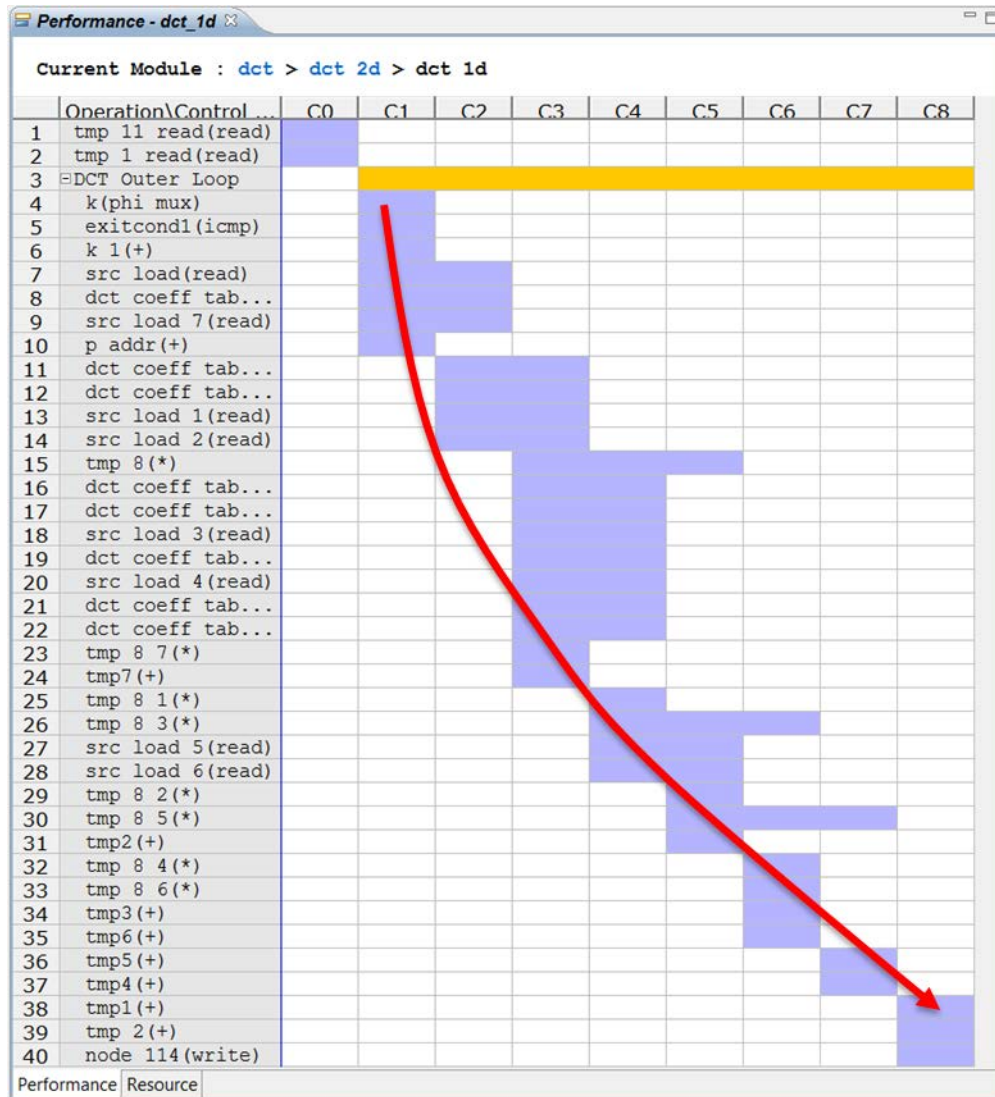

Figure 128: Analysis of `dct_1d` RD_Loop_Row
13. Expand the `DCT_Outer_Loop` to see the view shown in **Figure 128**.
Figure 128 shows a very different view from the earlier loop schedules (which had only a few cycles of latency). The schedule shows a long drift from input to output (as shown by the red arrow).